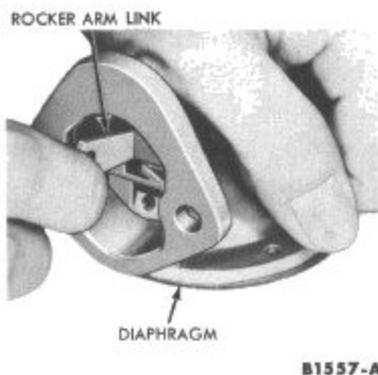

FIG. 32—Diaphragm and Link Removal or Installation
5. Press the diaphragm into the fuel pump body and unhook the rocker arm link from the slot in the diaphragm rod (Fig. 32). Remove the rocker arm link, diaphragm, and spring.
3. Lubricate the rocker arm and link with engine oil. Apply pressure on the diaphragm spring and insert the link in the diaphragm rod slot (Fig. 32). Position the rocker arm over the link.